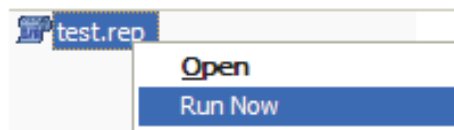

Figure 4-1. Report Pop-up Menu
1. Open Explorer and select the **rpt_pkg** directory from the browser (Figure 4-1).